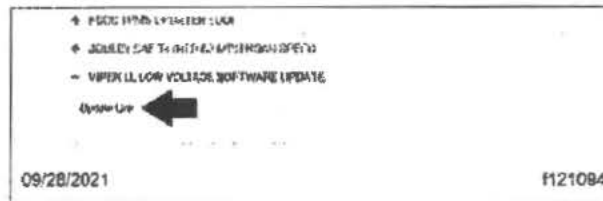

**Fig. 4, Viper II Low Voltage Software Update Link**
5. Scroll down to 'Viper II Low Voltage Software Update,' then select the '+' symbol. Select 'Update Link.' See Fig. 4.